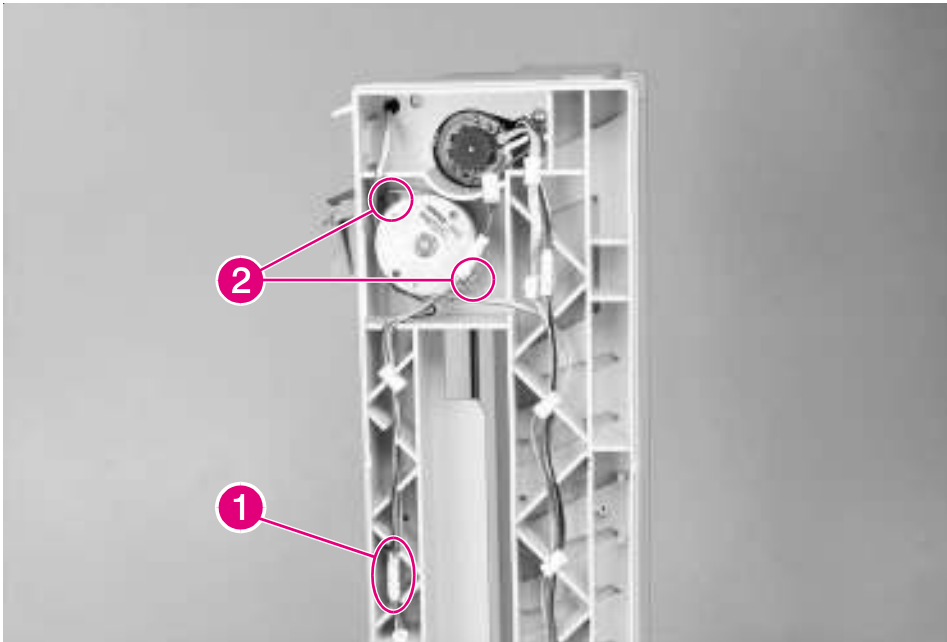

Figure 6-159 8-bin Mailbox Delivery Head Motor
- 2 Locate the cable that runs from the Delivery Head Motor down to the 8-bin Mailbox Controller PCA, and disconnect the cable from the connector in the middle of the 8-bin Mailbox frame (Figure 6-159, callout 1).